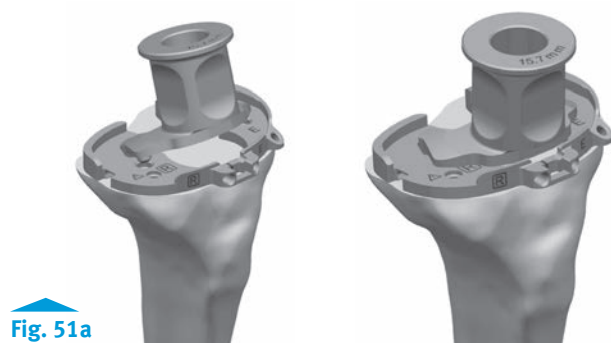

Fig. 51a
- By hand, place and hold the Cemented Tibial Drill Guide on the tibia Cemented Tibial Sizing Plate, by first engaging the posterior tabs in the undercuts in the Cemented Tibial Sizing Plate and then making sure that the distal anterior portion of the Cemented Tibial Drill Guide is flush against the Cemented Tibial Sizing Plate (**Fig. 51a**).